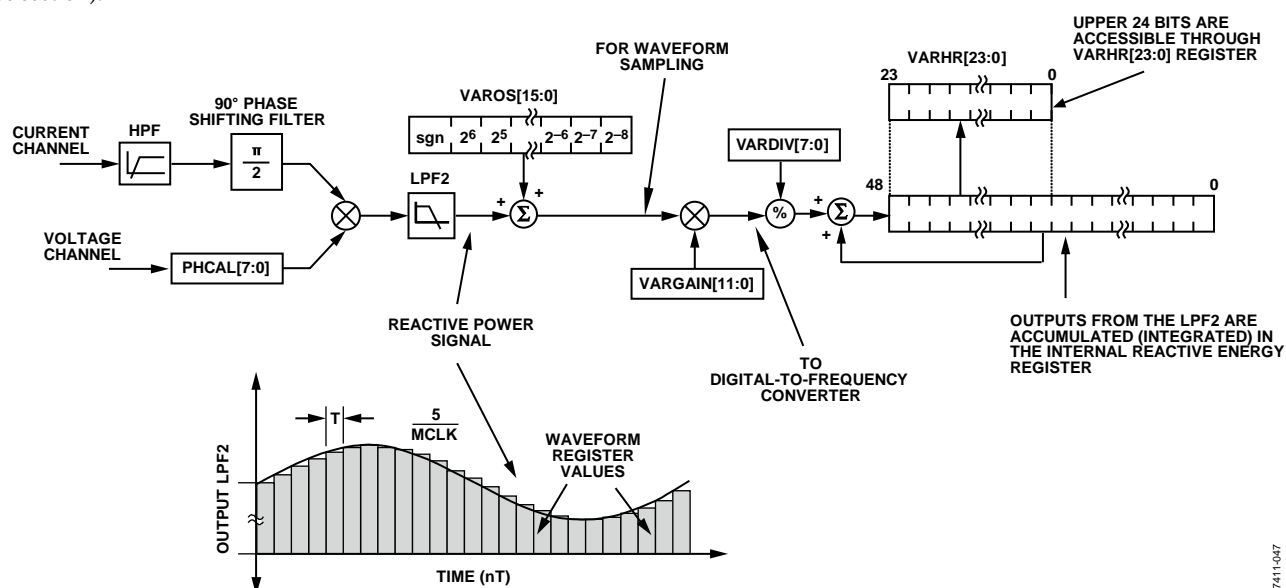

Figure 72. Reactive Energy Calculation
The instantaneous reactive power signal, $q(t)$, is generated by multiplying the voltage and current channels. In this case, the phase of the current channel is shifted by 90°. The dc component of the instantaneous reactive power signal is then extracted by a low-pass filter to obtain the reactive power information (see Figure 72).
Figure 72 shows the signal processing chain for the ADE5169/ADE5569 reactive power calculation. As explained in the Reactive Power Calculation (ADE5169/ADE5569) section, the reactive power is calculated by applying a low-pass filter to the instantaneous reactive power signal. Note that, when reading the waveform samples from the output of LPF2, the gain of the reactive energy can be adjusted by using the multiplier and by writing a twos complement, 12-bit word to the var gain register (VARGAIN, Address 0x1E[11:0]). Equation 23 shows how the gain adjustment is related to the contents of the var gain register.
The ADE5169/ADE5569 also incorporate a reactive power offset register (VAROS, Address 0x21). This is a signed, twos complement, 16-bit register that can be used to remove offsets in the reactive power calculation (see Figure 72). An offset can exist in the reactive power calculation due to crosstalk between channels on the PCB or in the IC itself. The offset calibration allows the contents of the reactive power register to be maintained at 0 when no power is being consumed.
The discrete time sample period (T) for the accumulation register in the ADE5169/ADE5569 is 1.22 μ s (5/MCLK). As well as calculating the energy, this integration removes any sinusoidal components that may be in the active power signal. Figure 72 shows this discrete time integration or accumulation. The reactive power signal in the waveform register is continuously added to the internal reactive energy register.
As shown in Figure 72, the reactive power signal is accumulated in an internal 49-bit, signed register. The reactive power signal can be read from the waveform register by setting the WAVMODE register (Address 0x0D) and setting the WFSM bit (Bit 5) in the Interrupt Enable 3 SFR (MIRQENH, Address 0xDB). Like the current and voltage channel waveform sampling modes, the waveform data is available at sample rates of 25.6 kSPS, 12.8 kSPS, 6.4 kSPS, and 3.2 kSPS.